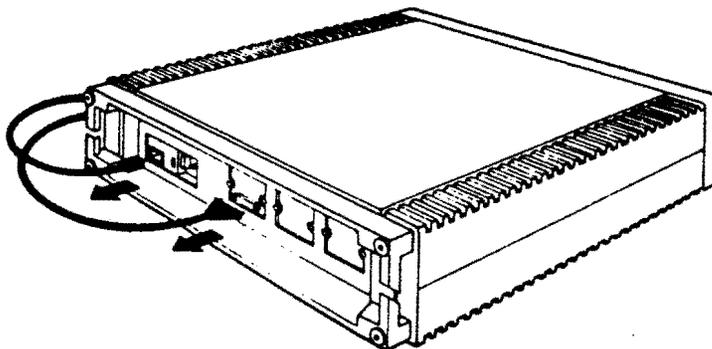

Figure 4-2: Rear Cable Removal
4. Note the position of any external cables connected to the Patch and Filter Panel assembly. Remove the cables (Figure 4-2).